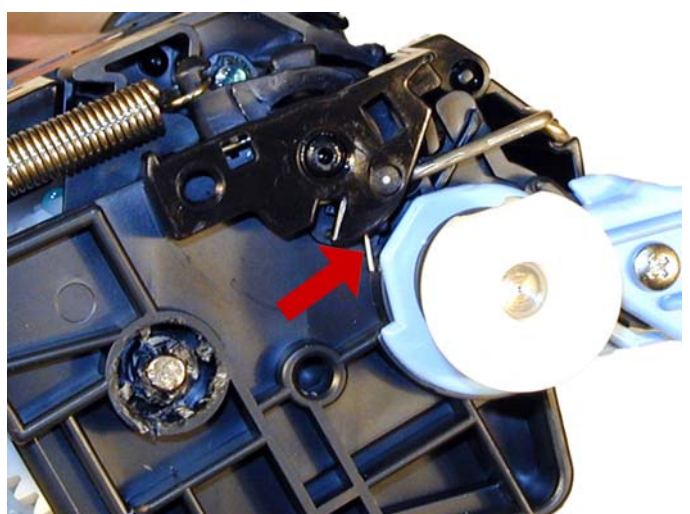

Figure 65
42) Release the tail of the spring so that the cover closes properly. See **Figure 65**